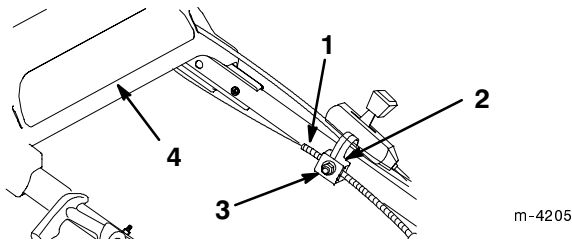

Figure 19
2. Loosen the cable support nut (Fig. 19).
7. Tighten the nut on the cable support (Fig. 19).